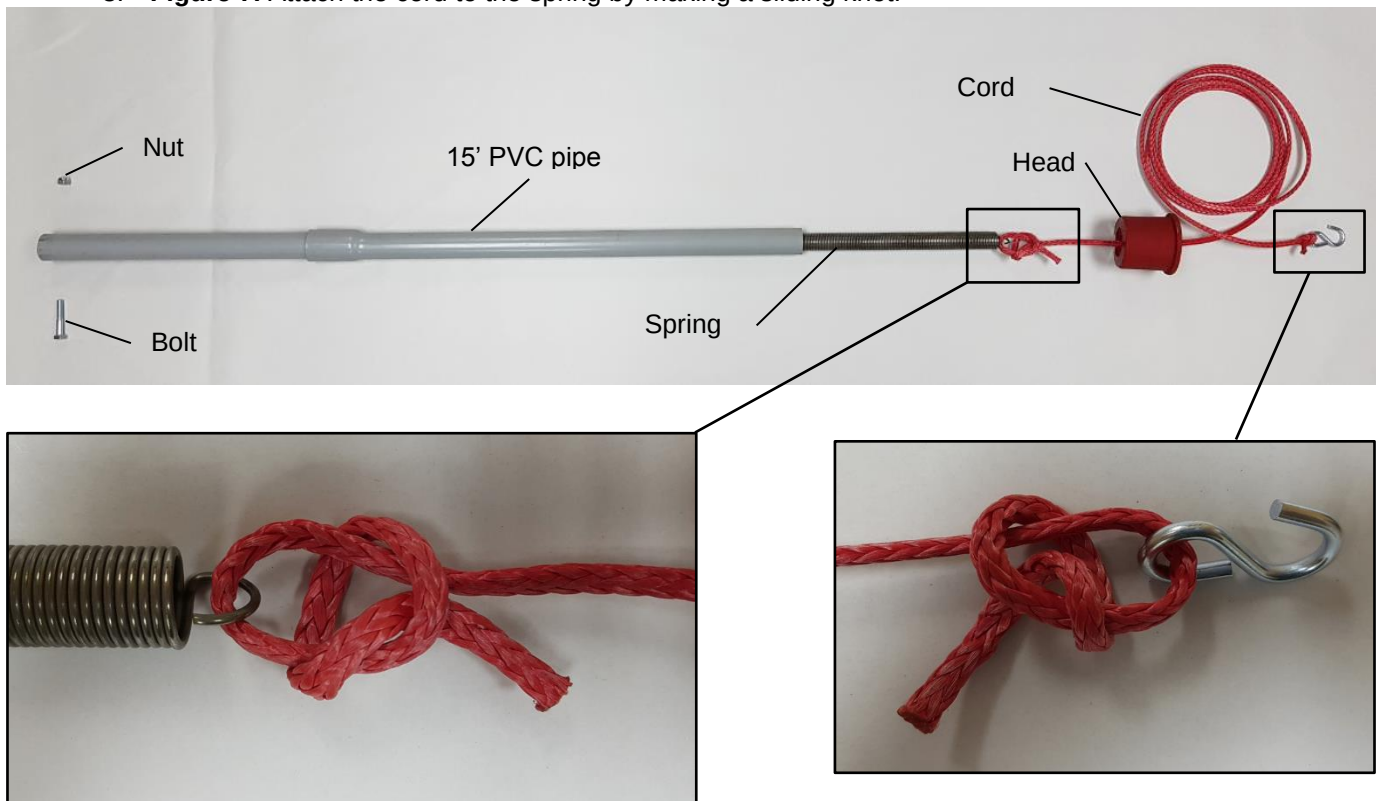

Figure 7
8. **Figure 7.** Attach the cord to the spring by making a sliding knot.